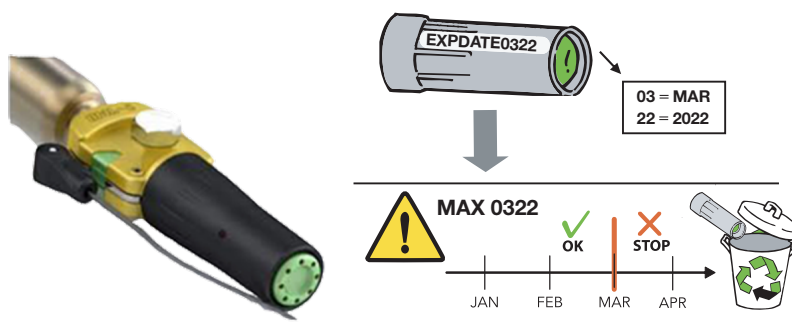

Fig 1. United Moulders automatic inflation head.
- a. For automatic models fitted with United Moulders automatic inflation head with water sensing cartridge (Fig 1) UML cartridge has 3 year lifespan and is printed with an expiry date.